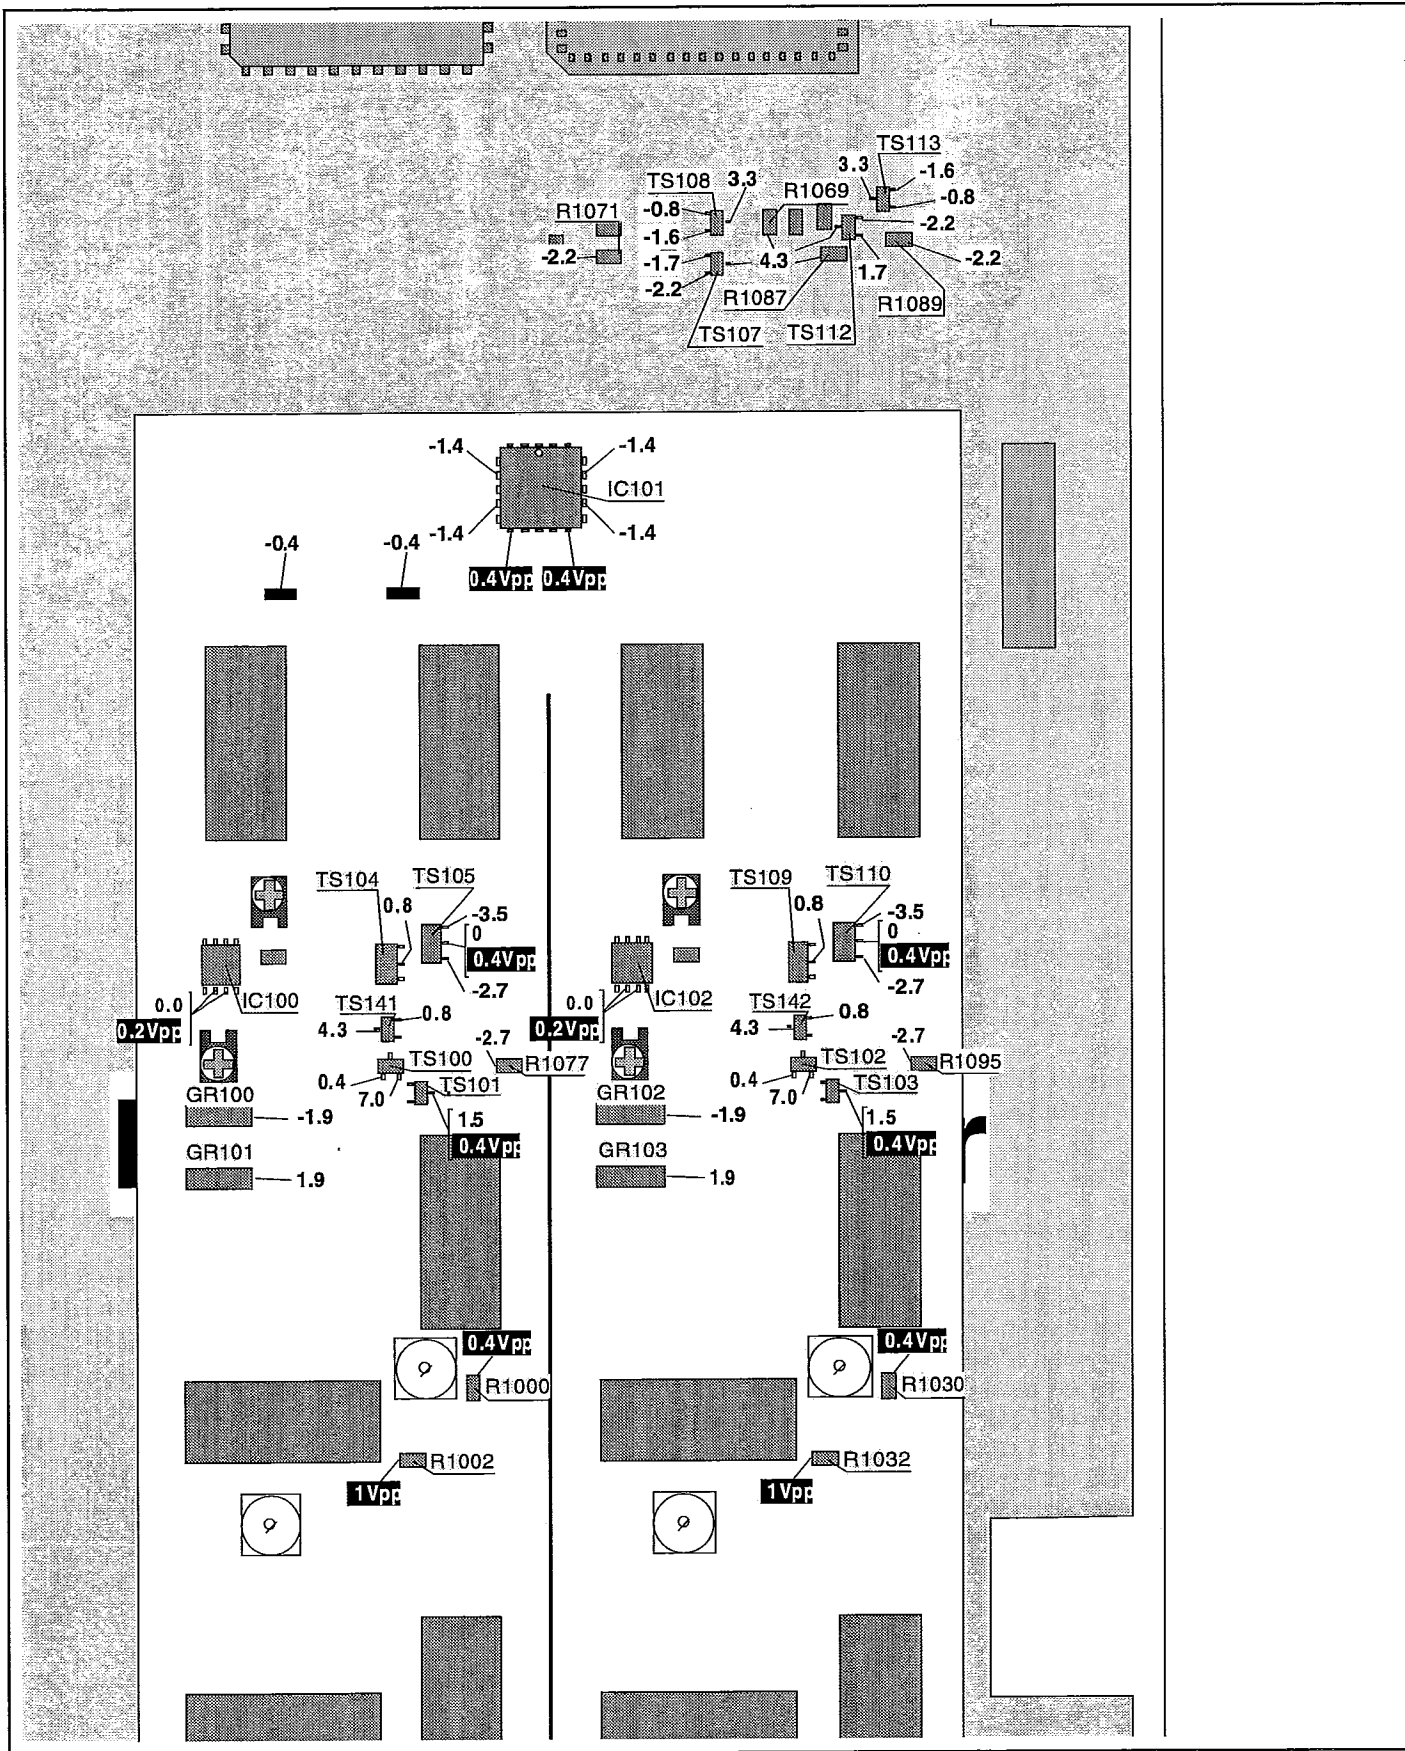

Fig. 5-19 Typical voltages, Input Amplifier.
- Measure the DC voltages according to figures 5-19 and 5-20. Use the DMM with a 10 kΩ resistor in series with the test cable.
- Measure the AC-levels according to figures 5-19 and 5-20. Use the oscilloscope and a 10 MΩ probe.